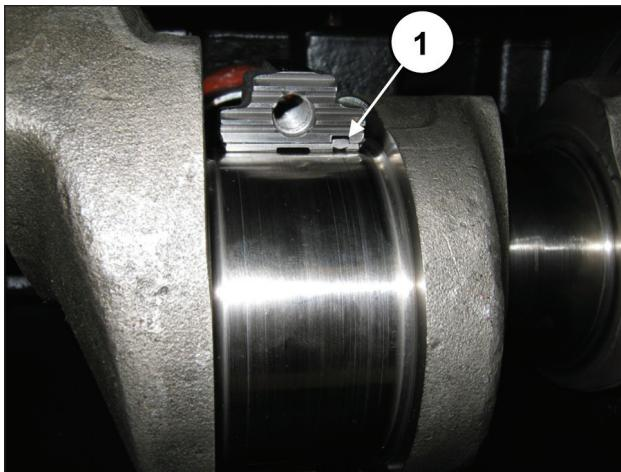

Fig. 68
**For proper assembly of the half-bearings, ensure that the reference tab on the half-bearings are positioned in their housing on the half support (pos. ①, Fig. 68).**